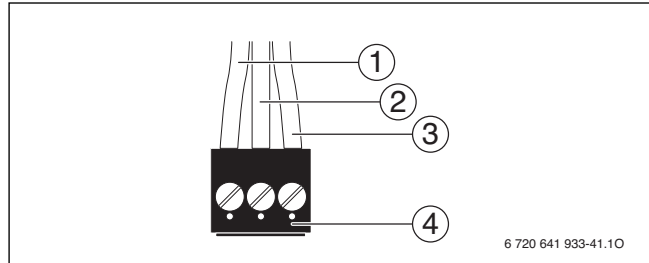

Fig. 47 Attach plug (external pump)
- ▶ Connect cable to **the black plug** according to Fig. 47.